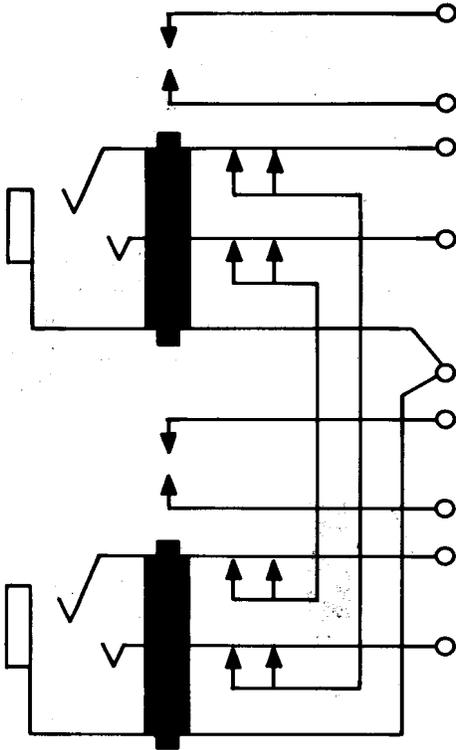

Fig. 3—578A Jack
**2.03 578A:** This single-mounted, twin, miniature jack (Fig. 3) has a single frame and is suitable to be used in equipment where space restrictions are a problem. This jack is arranged to mate with the 310 and similar-type plugs. This jack is used with the D2 Channel Bank Units.